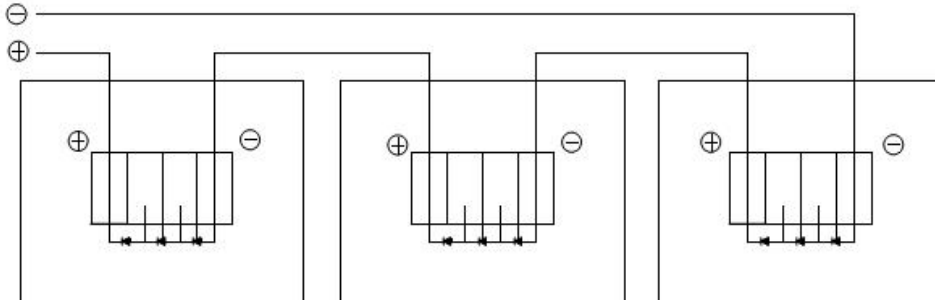

Figure 2.SERIES for more voltage
- ☆ To ensure proper system operation and to maintain your warranty, observe the correct cable connection polarity (Figures 2&3) when connecting the modules to a battery or to other modules. If not connected correctly, the bypass diode could be destroyed.
- ☆ PV modules can be wired in series to increase voltage. Connect wires from the positive terminal of one module to the negative terminal of the next module. Figure 2 shows modules connected in series